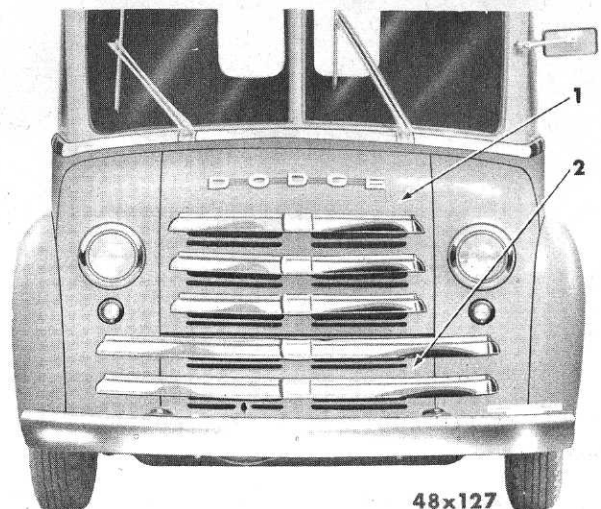

Fig. 76—Front View of Truck
- (1) Drain the radiator and gasoline tank.
- (2) Remove the cowl upper grille assembly by removing the cap screws from inside each hinge. Remove the grille and leave the hinges mounted to the body.
- (3) Remove the cowl lower grille assembly (Fig. 76).
- (4) Remove the front bumper bar from the frame.
- (5) Remove the fuel line running from the tank to the flexible hose.
- (6) Disconnect the brake line at each side of the cross member.
- (7) From inside the cab, raise the engine compartment lid and remove the engine compartment rear panel, engine compartment side panel, transmission floor cover and lower toe board assembly.
- (8) Disconnect the accelerator pedal control, hand brake cable and speedometer cable.
- (9) Disconnect front universal joint and lower the propeller shaft to the floor.
- (10) Remove the transmission.